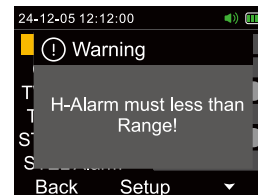

Fig 19
a. The high alarm value must be less than the range. If the set value is greater than or equal to the range, a corresponding prompt box will appear (see Figure 19).